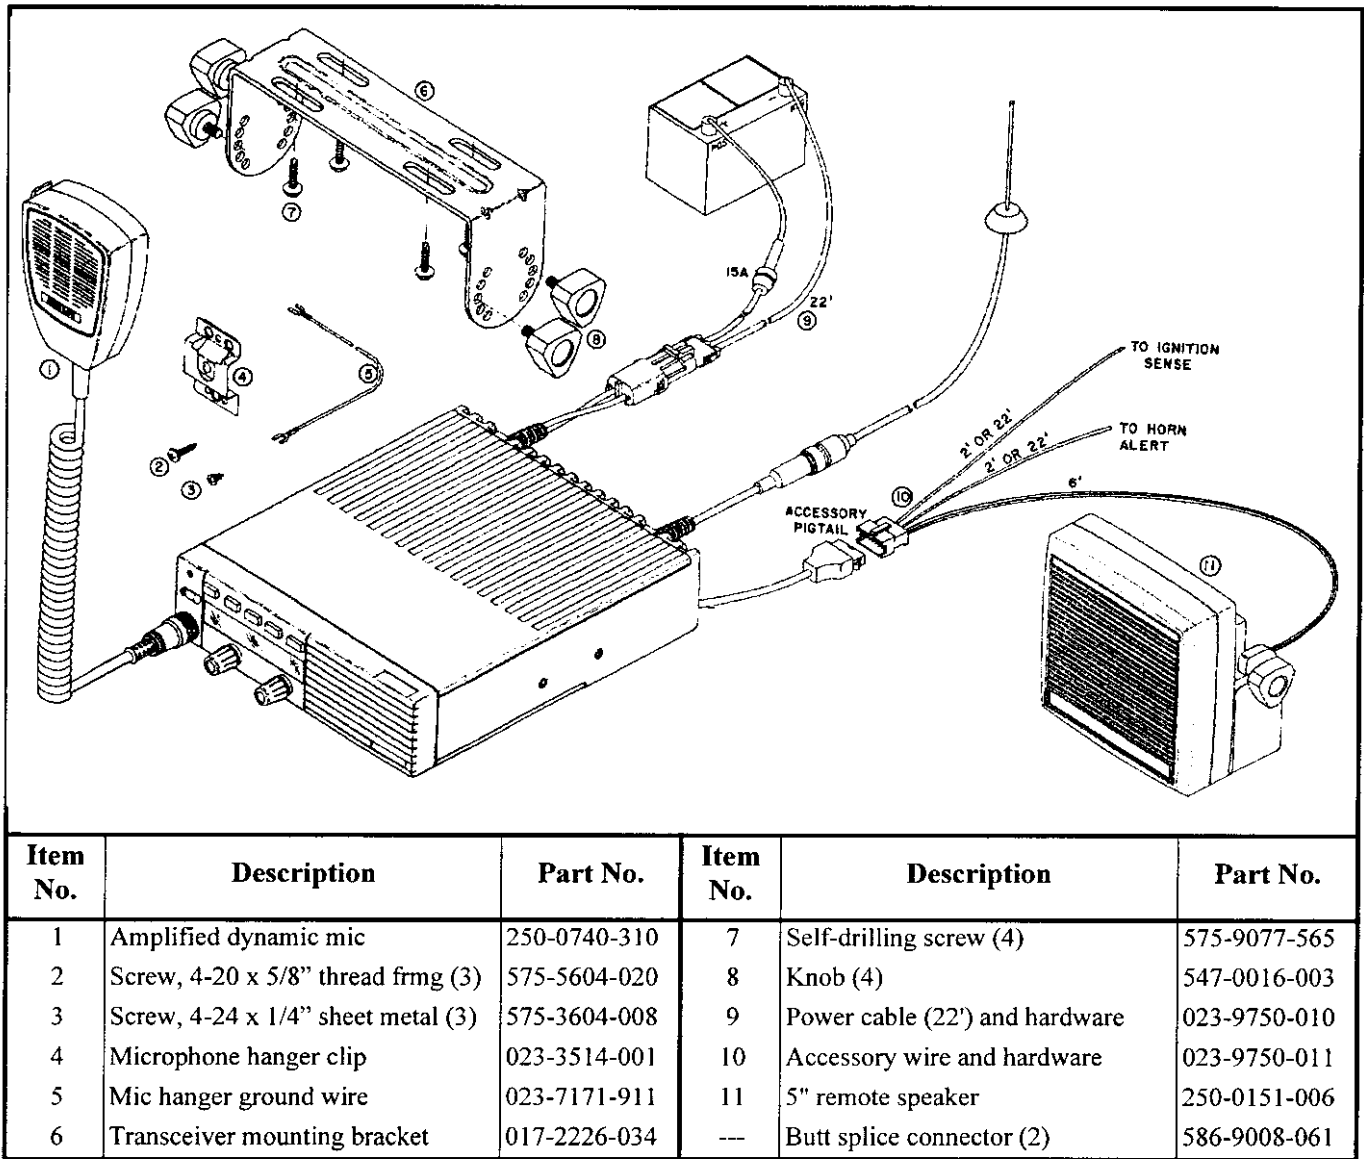

Figure 2-1 Front Mount Installation Components
**Mounting Hardware** - The mounting hardware and DC power cable are shown in Figures 2-1 and 2-3 in Section 2. A 22-foot DC power cable is used for both front and remote mount applications. The cable is cut to the required length at installation and any excess discarded. The accessory cable is used to connect such things as an external speaker, ignition sense input, and a horn alert to the transceiver. It includes two 22-foot and three 2-foot wires that are connected as required to external points. The adapter cable is used to connect a 86xx-series power cable to these transceivers.
Cable and Hardware Kit, Part No. 023-9750-010, includes a 22-foot power cable, microphone hanger, hanger ground wire, splice connectors, and all the hardware (such as screws) that is normally required for installation. Transceiver Mounting Kit, Part No. 023-9750-012, includes a mounting bracket with knobs and mounting screws. Accessory Wire Kit, Part No. 023-9750-011, includes a wire assembly that is used to connect the ignition sense input and accessories. These components are shown in Figures 2-1 and 2-3.